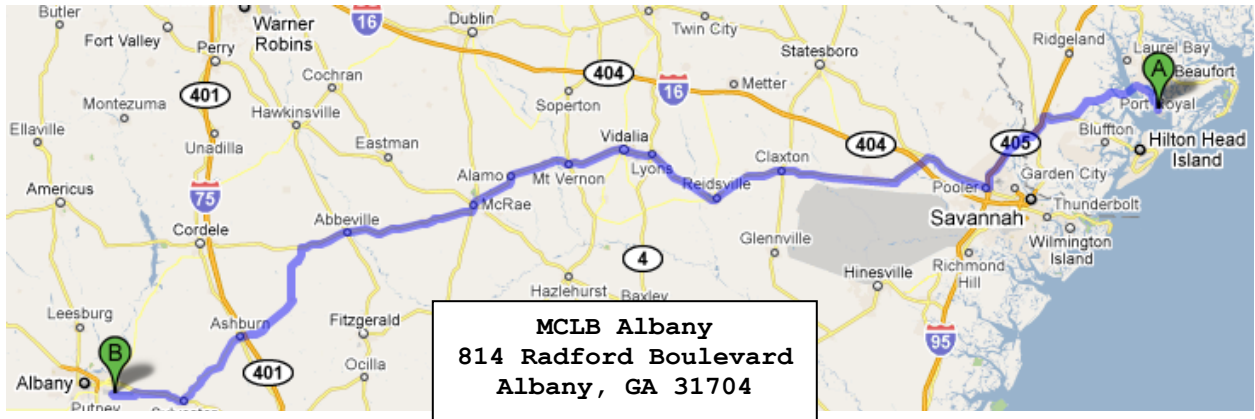

Figure 4-1
- a. Figure 4-1 illustrates the route from Parris Island to MCLB Albany.